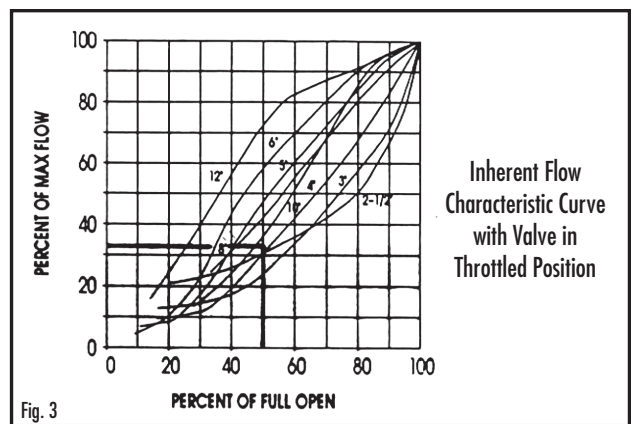

Fig. 3
6.3.3 Locate percentage of valve opening on the bottom scale of Flow Characteristic Curve (Fig 3). Project line vertically up to intersect with the Valve Characteristic Curve and from this point project line horizontally across to the left of the chart and record the percentage of maximum flow rate.
- 3.3 Press the gasket firmly into the flange cavity ensuring that the sealing lip is pointed outward. When in place, the gasket should not extend beyond the end of the pipe (Fig. 3).